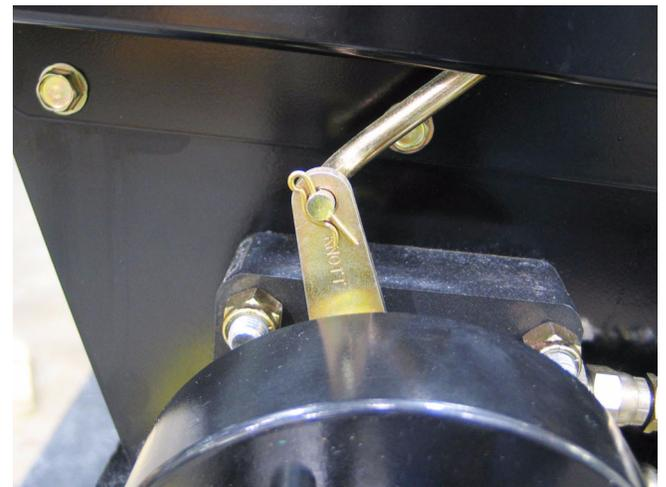

Figure 21.21
21.21. If the nut bottoms-out or tops-out (the nylon locking ring reaches the end of the threads on the brake rod) before correct adjustment is achieved, the brake arm may be mis-indexed. See Figure 21.21.